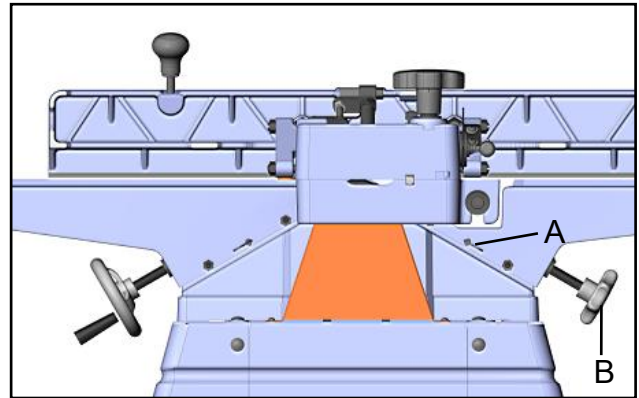
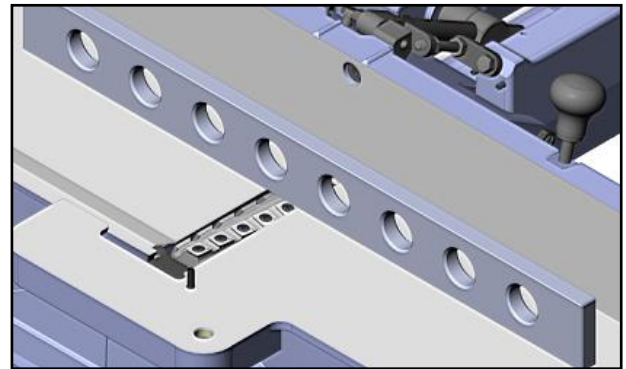

Fig. 3
Fig. 4
1. Loosen thumb screw (A), Fig. 3
2. Turn Knob (B) under the outfeed table.
3. Put a straight gauge (C) on the outfeed table extending over the cutter head then rotate the cutterhead by hand until the knife tip just touch the straight gauge, Fig. 4
4. When set, retighten thumb screw (A).